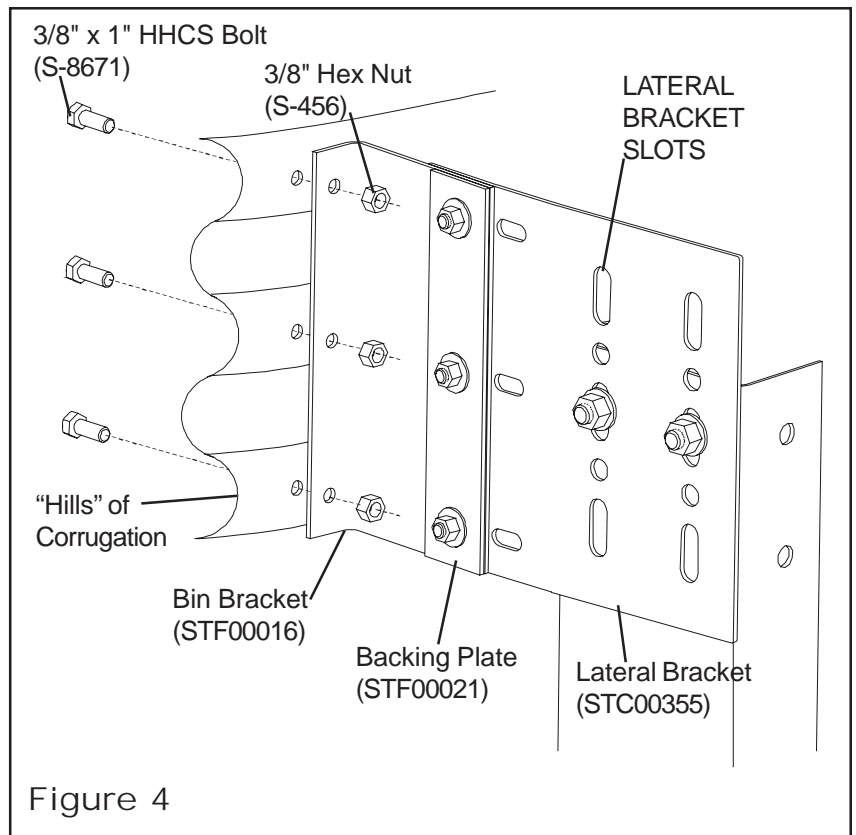

Figure 4
3. Take columns and set on foundation so anchor bolts go through angle joints. The bin bracket bolt holes should line up on the “hills” of the corrugation. (See Figure 4.) **NOTE: Do not attach to bin, this is for alignment only.**
4. If holes do not line up on the “hills” of the corrugation, then you need to remove the **LATERAL BRACKET (STC00355)** from the column and re-attach it to the column using the slots in the lateral bracket. (See Figure 4.) Then adjust the lateral bracket up or down in the slots to line the holes in **BIN BRACKET (STF00016)** on the “hills” of the corrugation. Then fully tighten lateral bracket bolts.